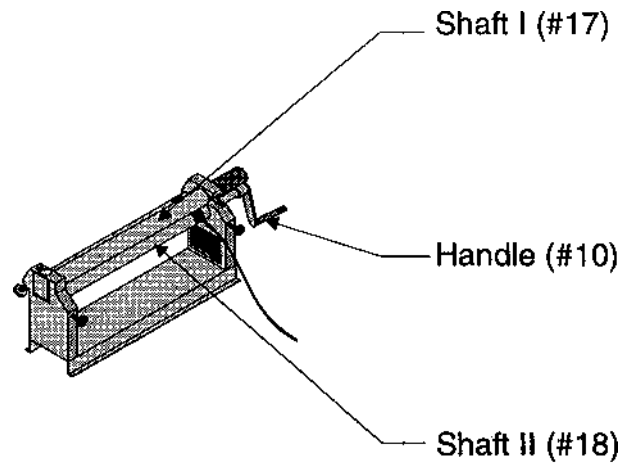

Figure 5 -- Wire Forming
Step 5: To form wires, select the smallest groove that you can use and put the edge of that wire on the groove of SHAFT II. Other operations are identical to sheet metal forming. See Figure 5.